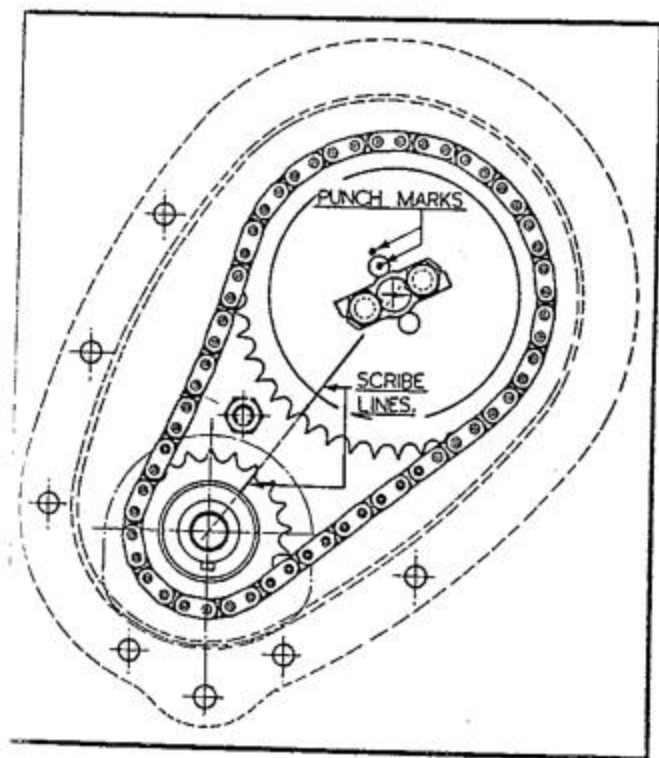

Fig. 19. Showing wheel markings for valve timing
When the timing has been correctly set (as explained later under "Valve Timing") the faces of the two gears are marked with a scribed line drawn radially in such a manner that if the lines were produced outwards on the respective gears, they would pass through the centres of the two gears. In addition, to avoid any possibility of the camshaft position being incorrect, a centre punch mark is made on the end of the camshaft through an unoccupied setscrew hole and on the face of the timing wheel adjacent to the setscrew hole; Fig. 19 shows the marking of these timing wheels.
9. Note timing markings on gear-wheels and camshaft as shown in Fig. 19 for reassembly. In the absence of these markings, proceed as directed under "Valve Timing." (Page 21.)
1. When resetting the valve timing, the engine should be turned until the pistons in Nos. 1 and 4 cylinders are at T.D.C., this position exists when the fan pulley and crankshaft timing wheel keyways are pointing vertically downwards as shown in Fig. 19. Now rest the camshaft chain wheel on the camshaft spigot and line up the scribed lines. Turn the camshaft until the centre punch mark on the camshaft end appears at the punch marked hole on the camshaft chain wheel. The setscrew holes of the chain wheel should be exactly aligned with those on the camshaft. Next engage chain with crankshaft chain wheel, afterwards removing camshaft chain wheel, without altering the position of the camshaft, and fit to chain. The camshaft chain wheel should now be positioned on the camshaft so that the scribed lines on the two wheels are in line and the driving side of the chain is tight. The tabwasher can now be fitted and the two setscrews, but *do not bend up* the tabwasher until after